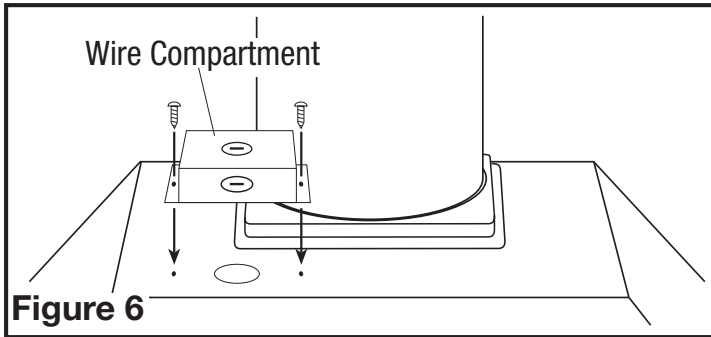

Figure 6
2. Attach the wire compartment to the power unit with two of the provided #6 blunt tipped screws (Figure 6).